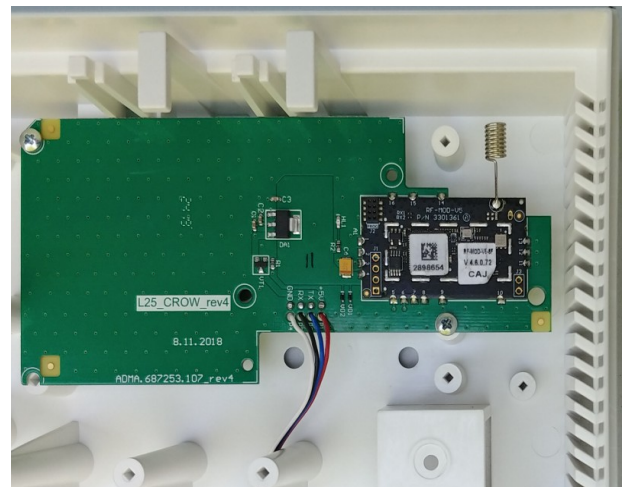

Figure 21. Adapter “L25\_Crow\_rev4” in the device housing
- “**L25\_CROW\_rev4**” Adapter – should be installed into the device housing (Figure 21);